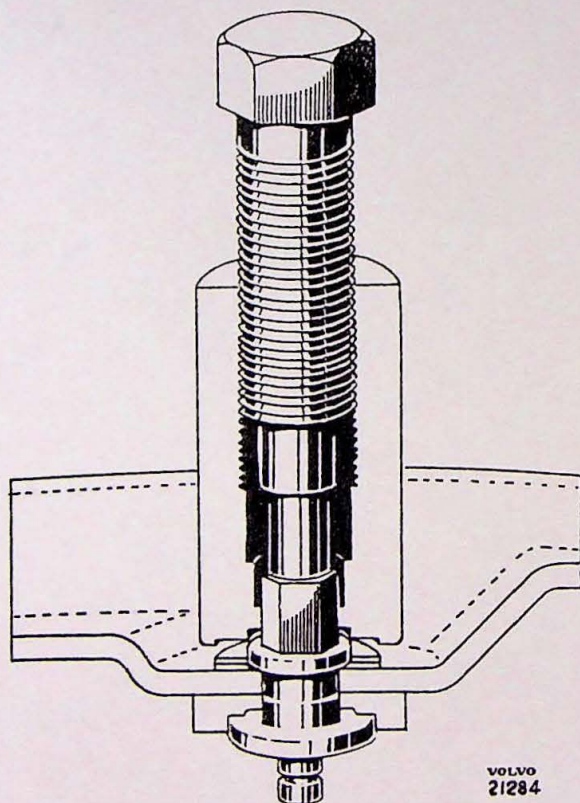

Fig. 25.
4. Put in the screw and pull the tool off the bolt, see Fig. 25.